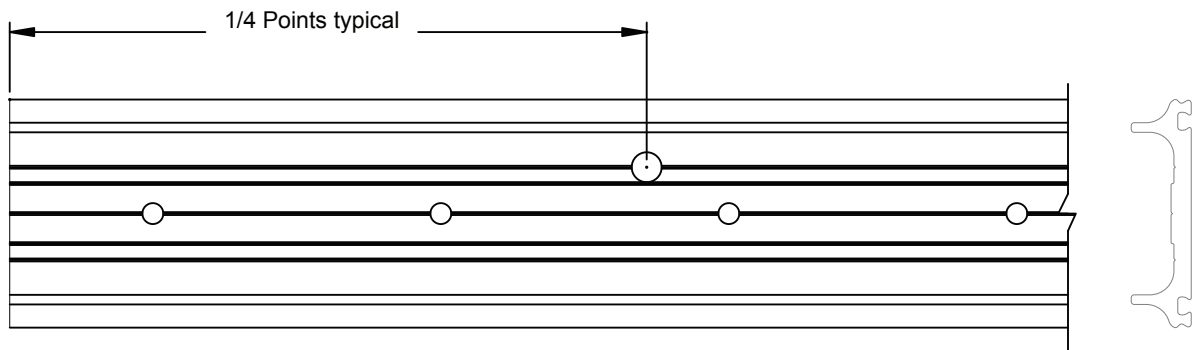

FIGURE 2
1.2 Weep holes are to be located at 1/4 points of horizontal pressure plates unless shop drawings designate different locations. Weep holes are  $5/16$ " diameter (See notes below for drill bit recommendations.). See FIGURE 2